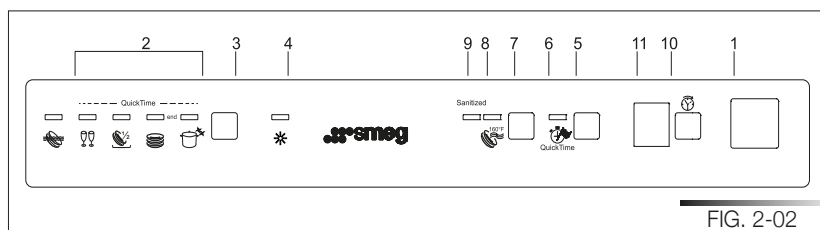

FIG. 2-02
The dishwasher is equipped with a control panel (see fig. 2-02) which is used to program the appliance and switch it on and off.
To run programmes **6, 7, 8, 9, 10** (see tab. 2-02b), select the required standard programme (see programmes 1, 2, 3, 4, 5 in tab. 2-02a) and then press the **quick time option button** (ref. 6 fig. 2-02).
Press the on/off button (ref. 1 fig. 2-02) to start the dishwasher. Then wait for one of the **program indicator lights** to turn on (ref. 2 fig. 2-02).
- Press the **program selection button** (ref. 3 fig. 2-02) several times until the indicator light corresponding to the required program turns on (ref. 2 fig. 2-02);
- To cancel the current program, open the door and press and hold down the **program selection** button (ref. 3 fig. 2-02) for a few seconds until the indicator lights of the fourth and fifth programs turn on (ref. pr. 4, pr. 5 fig. 2-03).
Before programming a delay, open the door of the dishwasher, select the required washing program (see para 2.2 “Setting the washing program and switching on and off”). Select the day by pressing the **Program delay** button (ref. 11 fig. 2-02); each time you press the button, the display increases the delay before the appliance starts by **1 hour**.
At the end of the program, the dishwasher emits a short beep and the **indicator lights of the fourth and fifth program** (ref. pr. 4, pr. 5 fig. 2-04) flash. Turn off the appliance by opening the door and pressing the **on/off button** (ref. 1 fig. 2-02).